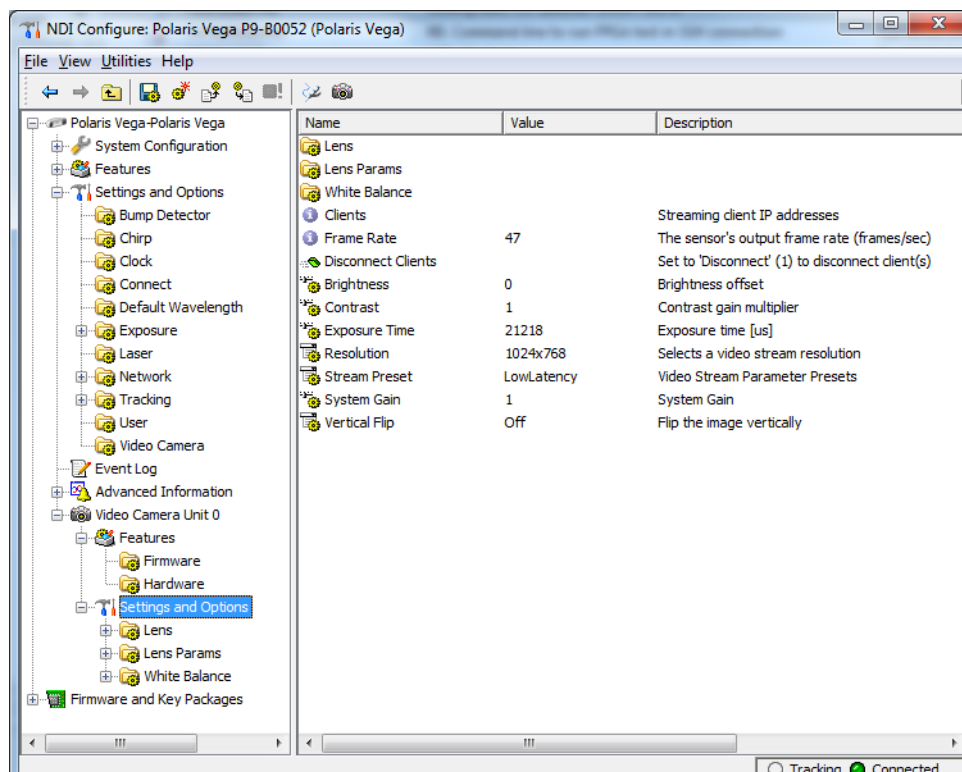

Figure 6-5 Video camera configuration options in ToolBox
5. In the panel on the right of the main page, use the various settings to adjust the configuration of the video camera for your environment. See Figure 6-5.